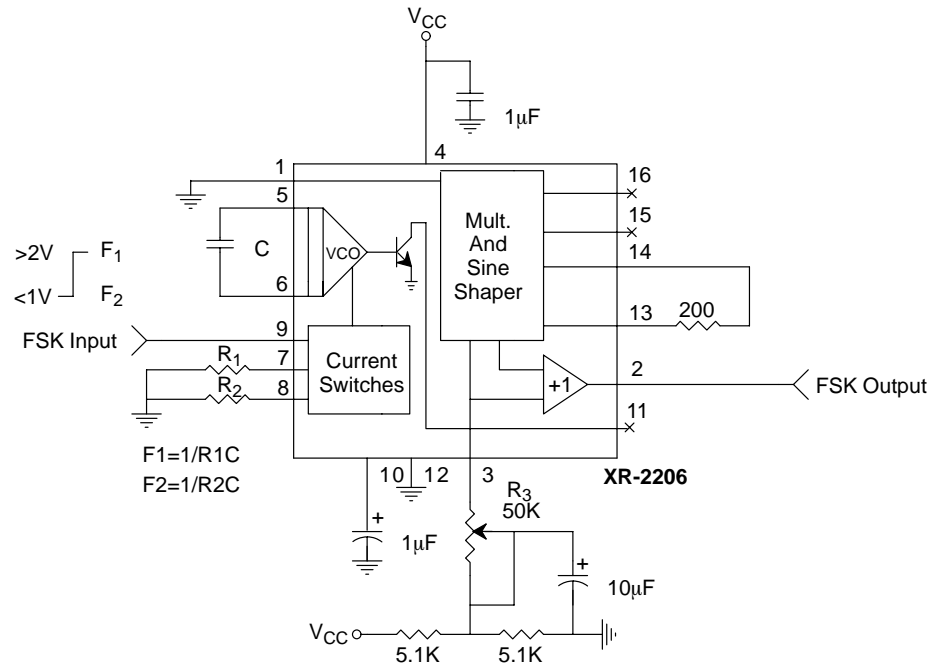

Figure 13. Sinusoidal FSK Generator
The XR-2206 can be operated with two separate timing resistors,  $R_1$  and  $R_2$ , connected to the timing Pin 7 and 8, respectively, as shown in *Figure 13*. Depending on the polarity of the logic signal at Pin 9, either one or the other of these timing resistors is activated. If Pin 9 is open-circuited or connected to a bias voltage  $\geq 2V$ , only  $R_1$  is activated. Similarly, if the voltage level at Pin 9 is  $\leq 1V$ , only  $R_2$  is activated. Thus, the output frequency can be keyed between two levels.  $f_1$  and  $f_2$ , as:
The dc level at the output (Pin 2) is approximately the same as the dc bias at Pin 3. In *Figure 11*, *Figure 12* and *Figure 13*, Pin 3 is biased midway between  $V^+$  and ground, to give an output dc level of  $\approx V^+/2$ .
*Figure 13* shows the circuit connection for sinusoidal FSK signal operation. Mark and space frequencies can be independently adjusted by the choice of timing resistors,  $R_1$  and  $R_2$ ; the output is phase-continuous during transitions. The keying signal is applied to Pin 9. The circuit can be converted to split-supply operation by simply replacing ground with  $V^-$ .